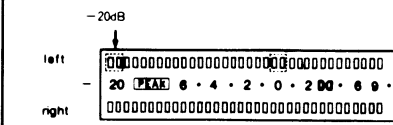

Fig. 17
B. Adjust VR301 so that the -20dB segment of the FL meter lights up with the input level of -20±0.8dB below the standard input level (L-CH ONLY) (See fig. 17).